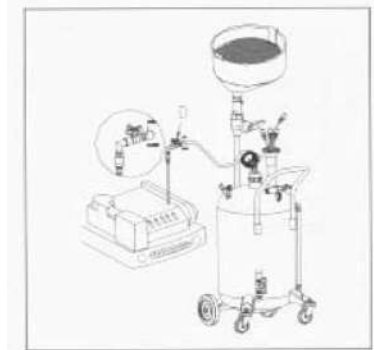

Fig. 6
- a. Position the evacuator next to the vehicle to be serviced. Turn off the vehicle and remove the dipstick from the motor. (See Fig 6)